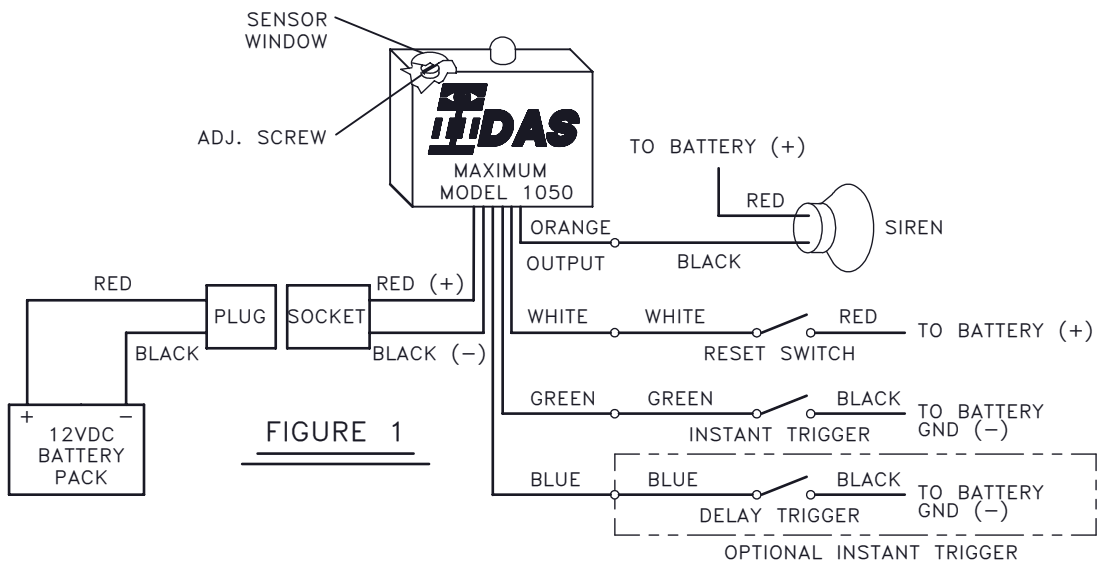

FIGURE 1
The *IIDAS®* impact/abuse sensor is designed to detect severe impact, unwarranted abuse, or abrupt rocking. After installation, if it is necessary to adjust the impact sensitivity, remove the sensor window (see Fig. 1) from the *IIDAS®* Controller, and with a small flat-head screwdriver simply turn the screw, in one-half turn steps, clockwise to increase the impact sensitivity and counter-clockwise to decrease the impact sensitivity. Whenever the impact/abuse sensor is triggered *IIDAS®* will instantly alarm for approximately 30 seconds and then reset automatically. The alarm output may be shortened or lengthened at BRW's factory. Whenever *IIDAS®* is triggered again, during an alarm cycle, it will restart its 30 second alarm output. Whenever *IIDAS®* is triggered by a door being illicitly opened it will instantly alarm for approximately 30 seconds and then reset automatically.
**ORANGE WIRE (*Alarm Output*):** Attach the orange wire of the *IIDAS®* Controller to the black wire on the siren. Then attach the red wire on the siren to the red wire on the battery (see Fig. 1).